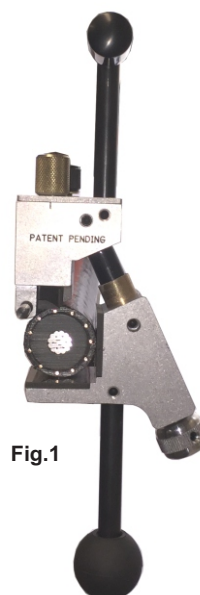

Fig.2
4. **Set the blade angle.** Set the angle in the range of 3° to 9°. Large diameter cables should be set to the lower angle, small cables to the steeper angle. Fig.2